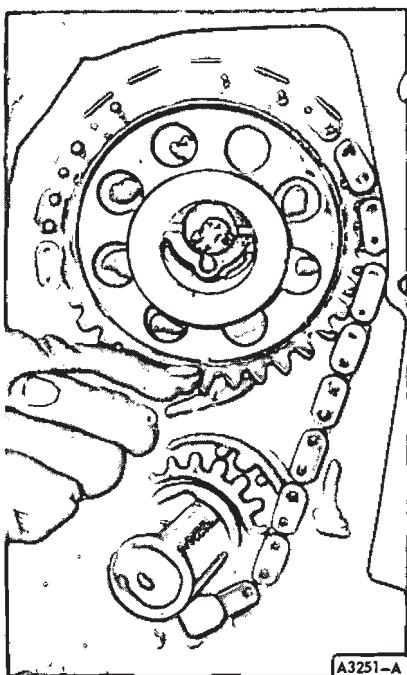

FIG. 25—Removing or Installing Timing Chain
19. Remove the camshaft sprocket cap screw, washer and two piece fuel pump eccentric. Slide both sprockets and the timing chain forward, and remove them as an assembly (Fig. 25).